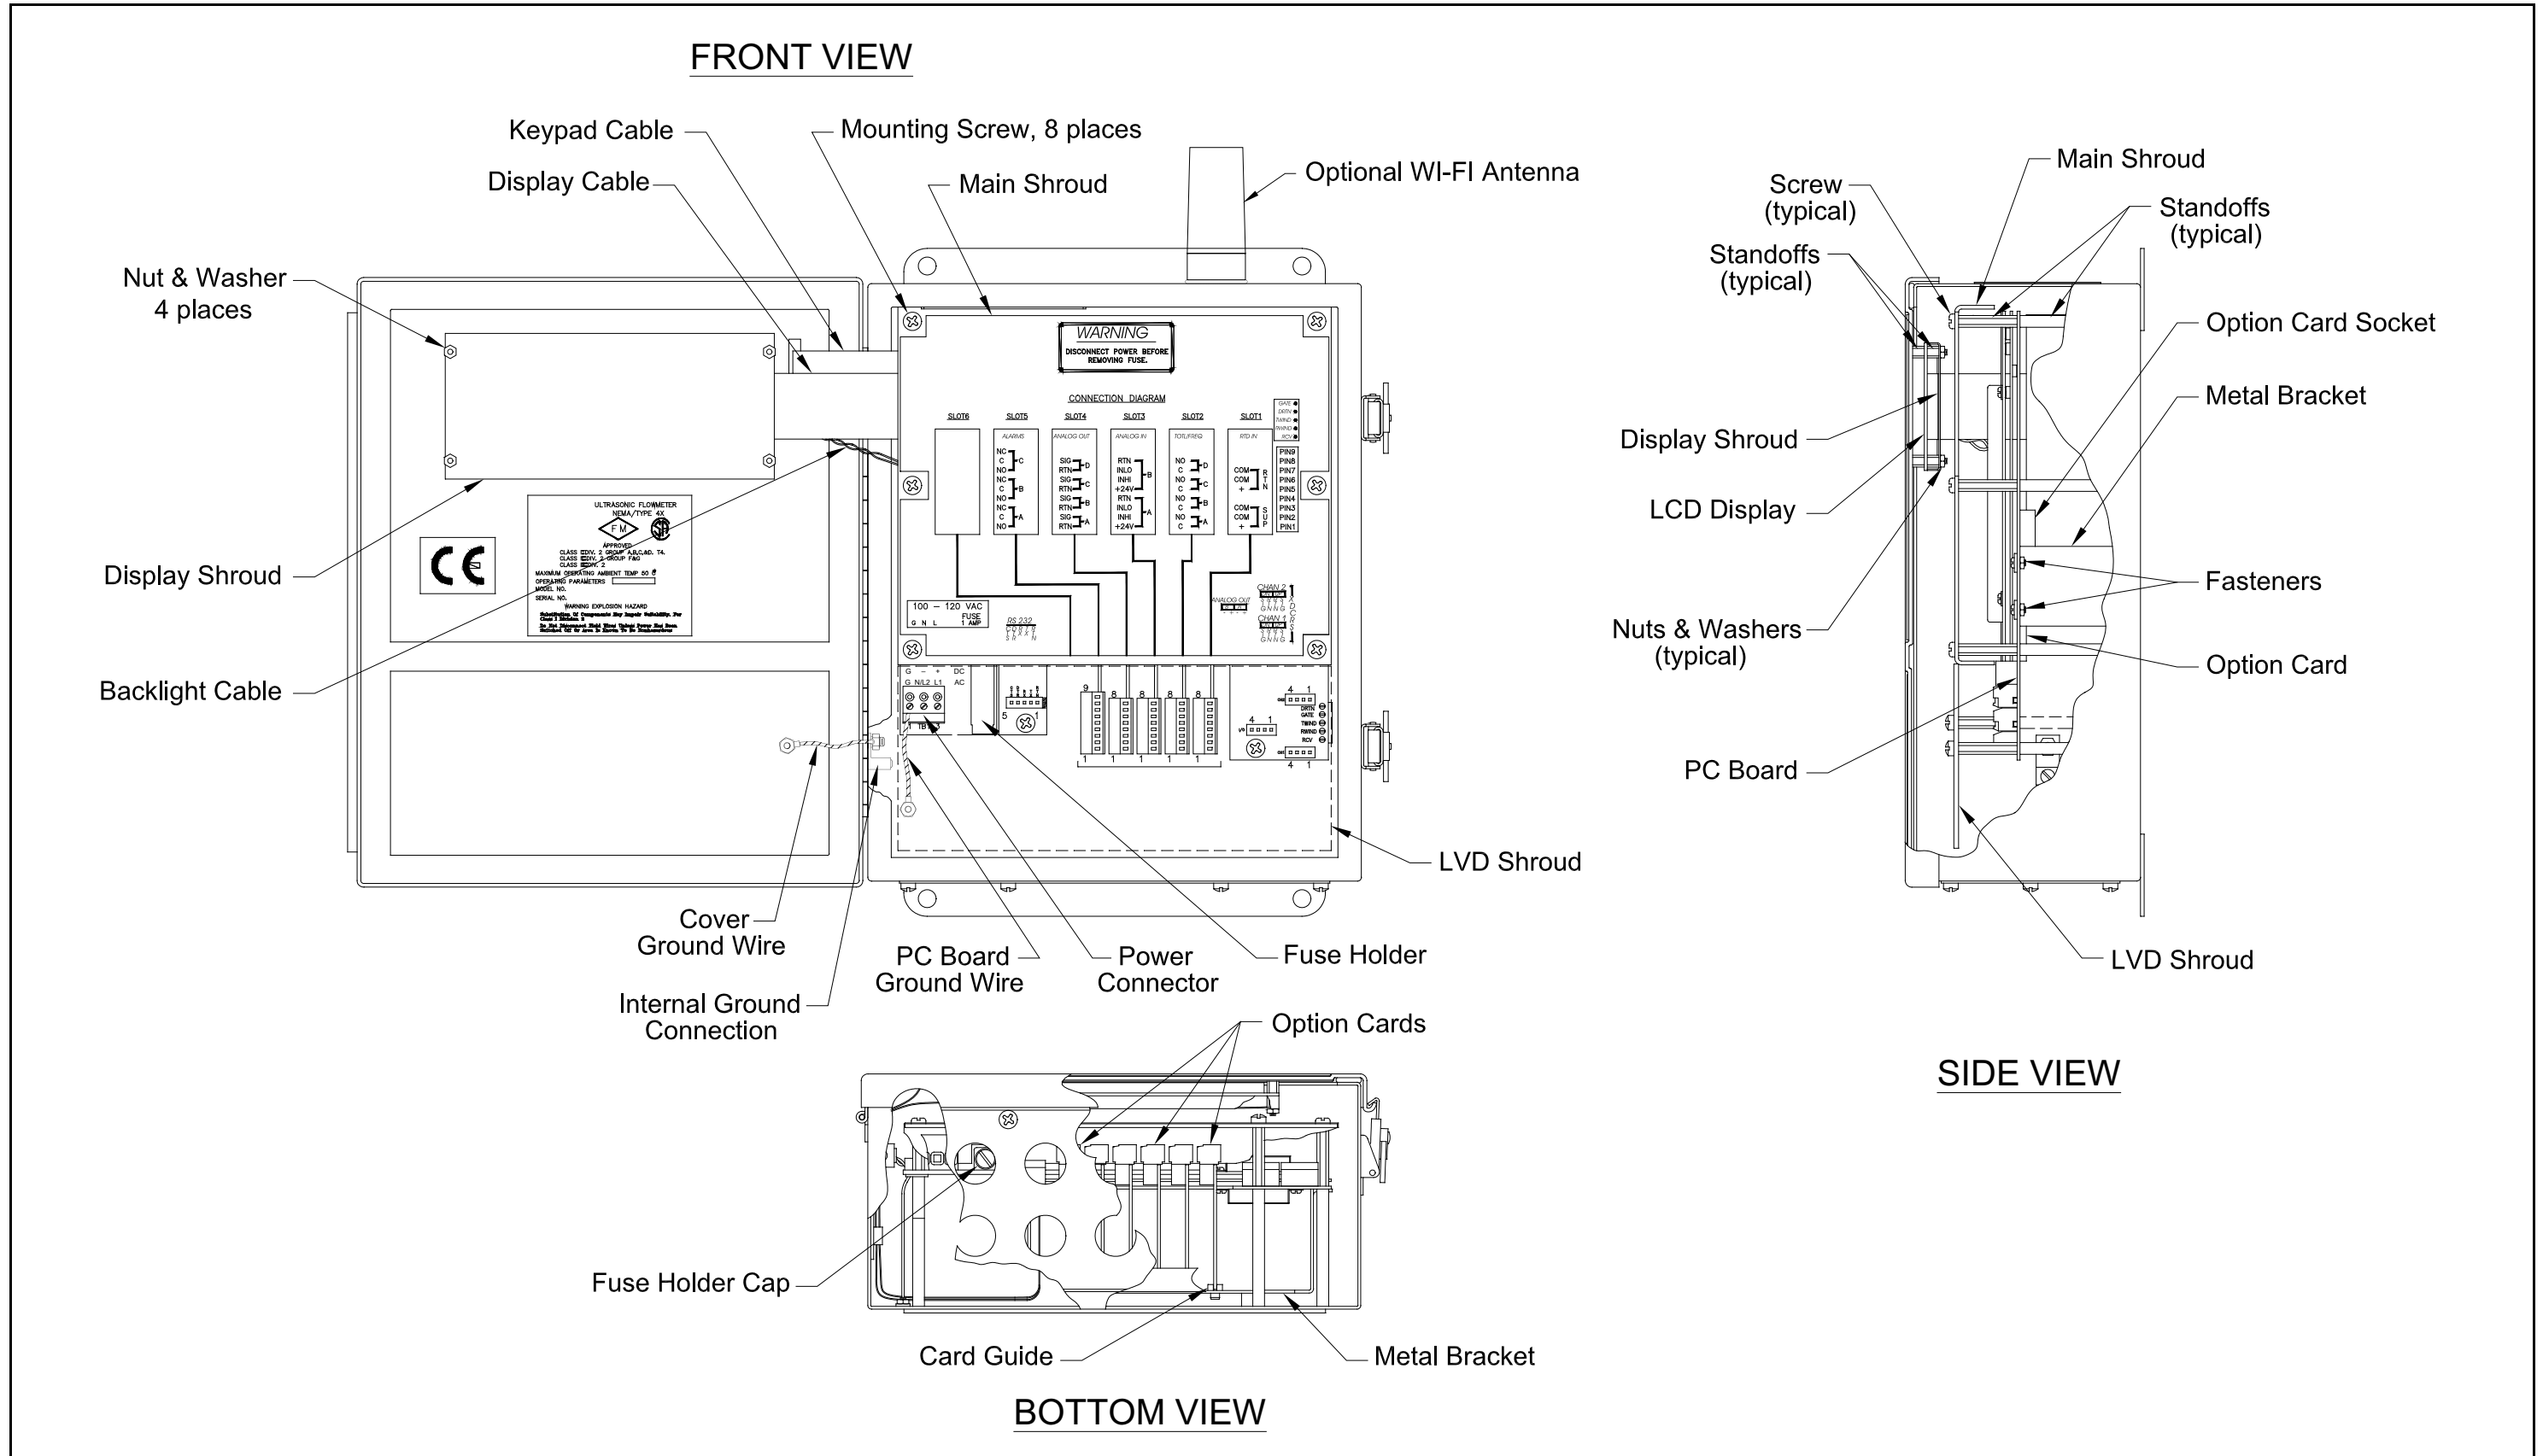
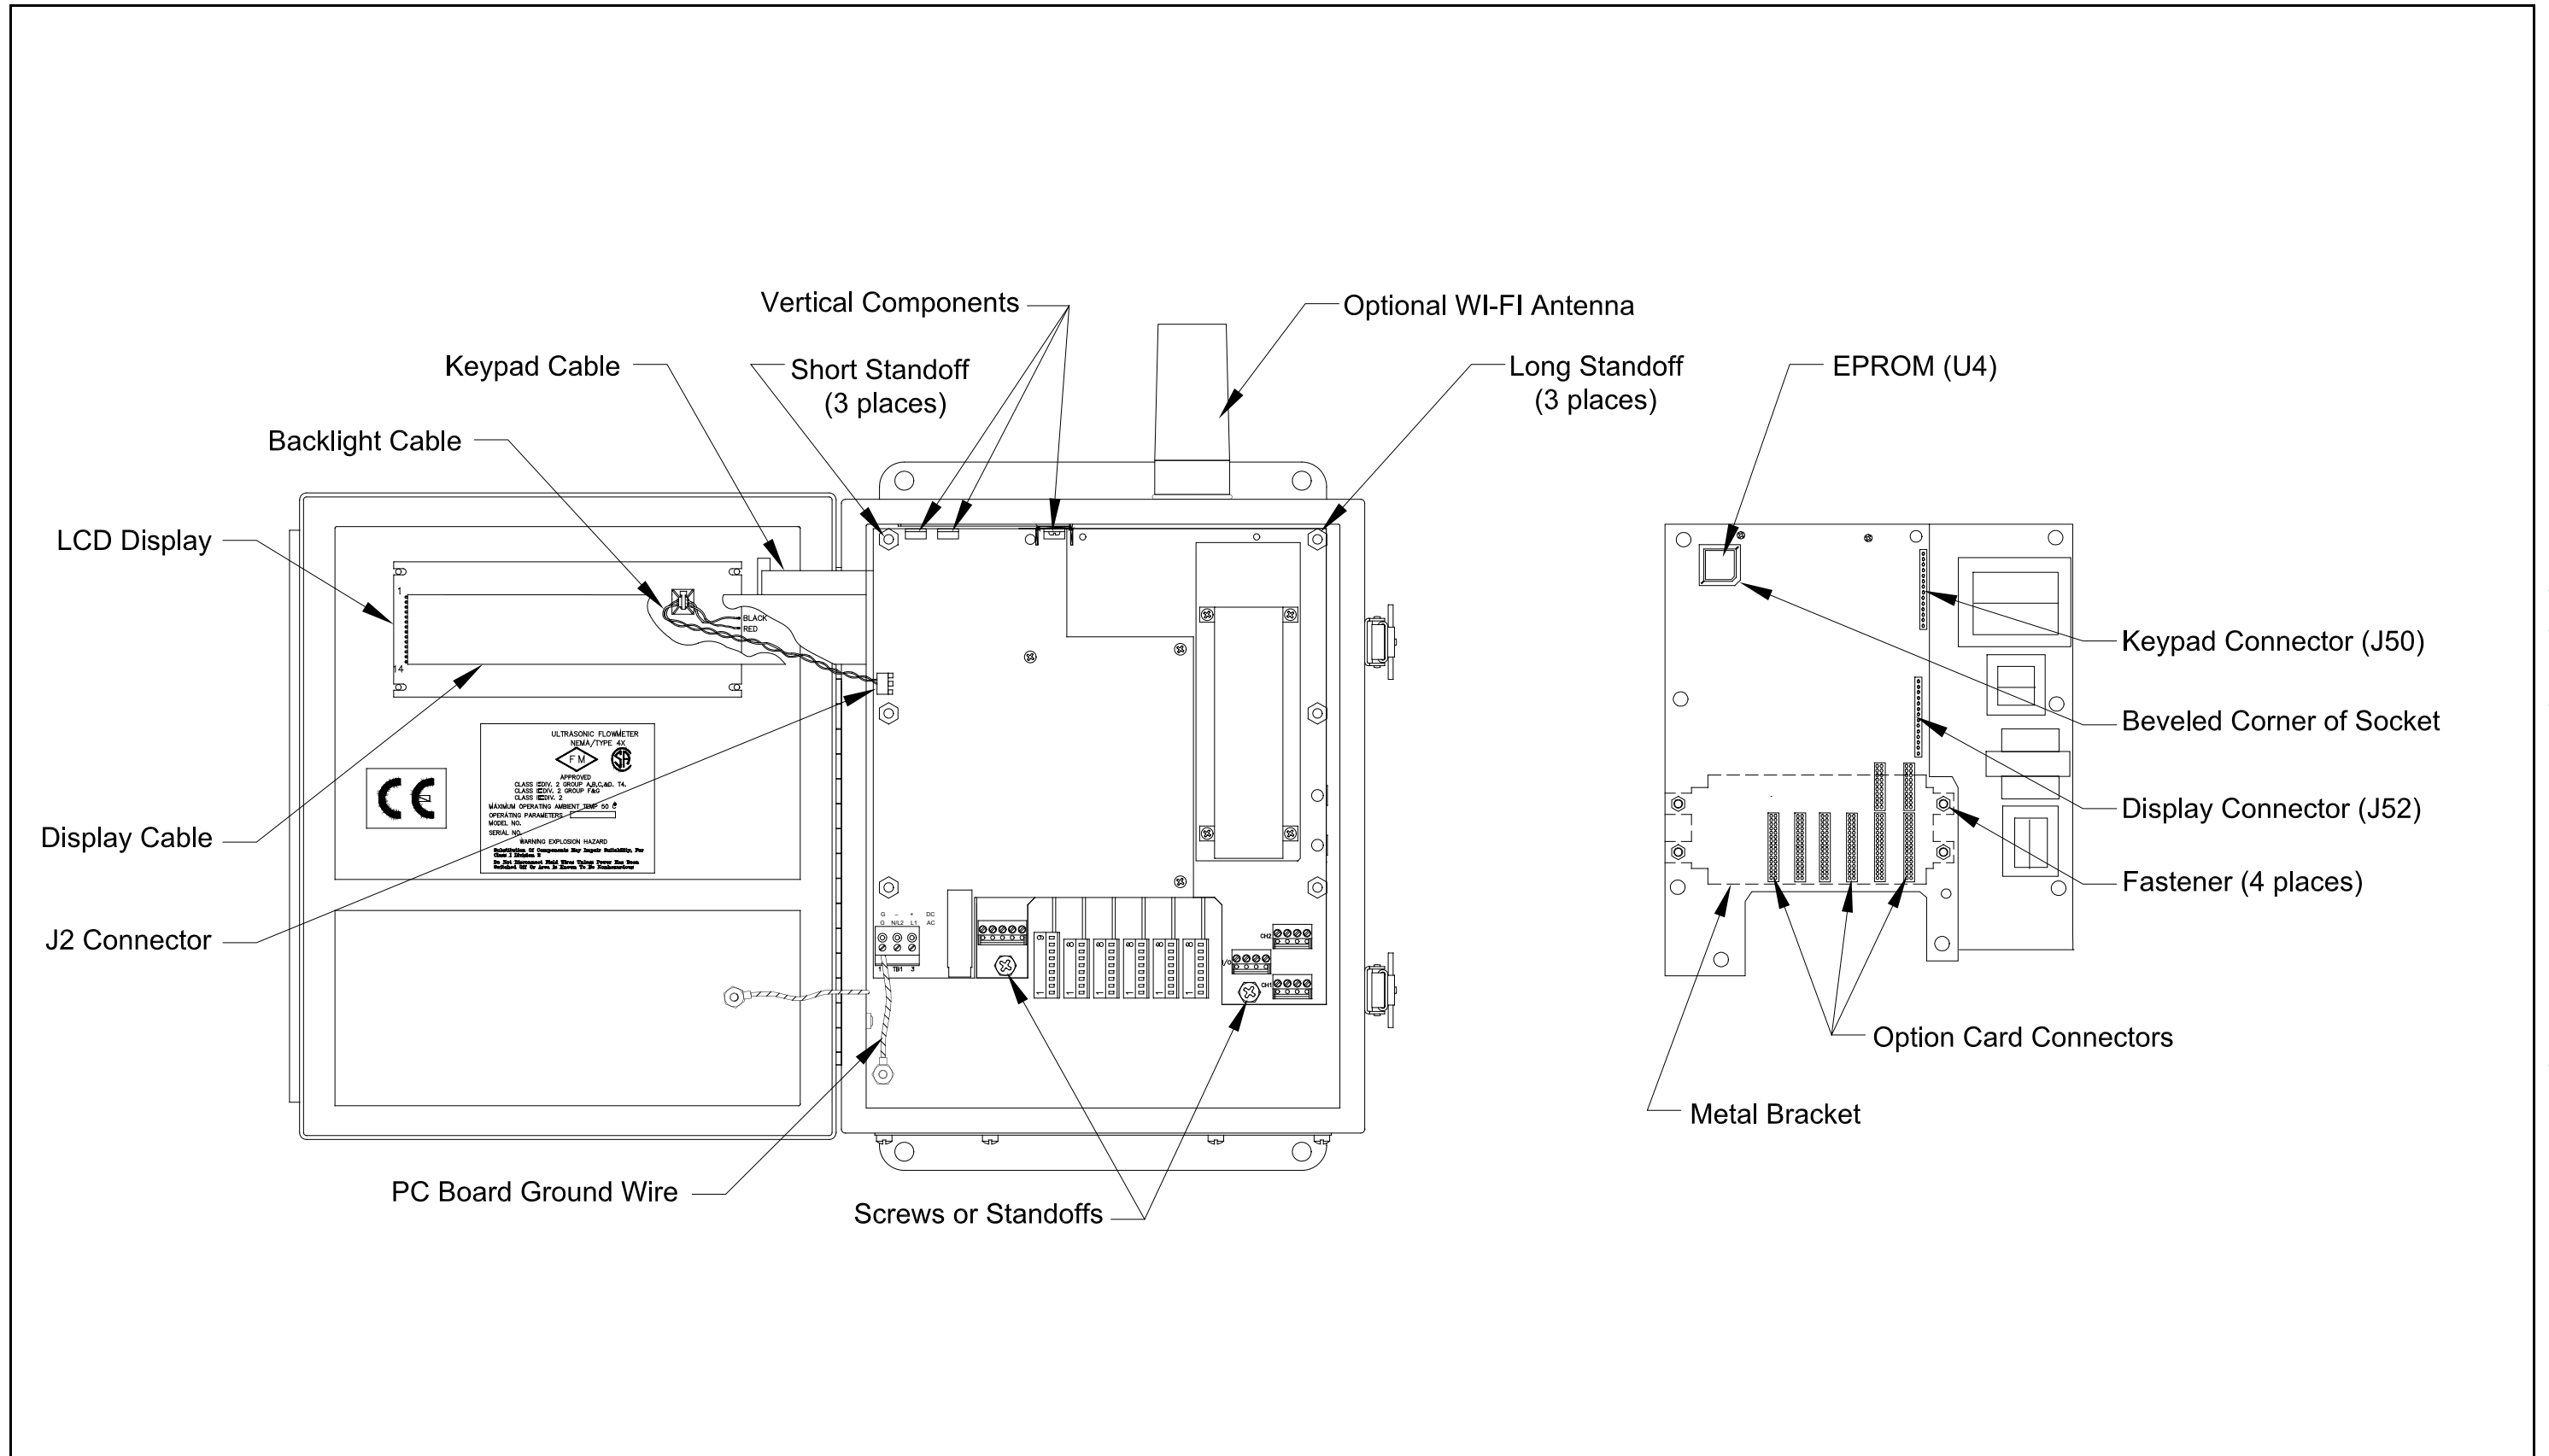

Figure 8: Standard Model DF868 - Electronics Console Assembly
Figure 9: Standard Model DF868 – Printed Circuit Board Assembly
2. Locate the black plastic fuse holder that is mounted on the printed circuit board between the power terminal block (TB1) and the RS232 terminal block. As shown in Figure 8 on page 35, the fuse holder extends below the main aluminum shroud, and the fuse holder cap is located on the bottom of the fuse holder.
All of the remaining maintenance procedures discussed in this chapter require removal of the printed circuit board. Refer to Figure 8 on page 35 and Figure 9 on page 36 while completing the following tasks:
CAUTION! During this procedure, be very careful not to damage the upright components along the top edge of the printed circuit board (see Figure 9 on page 36). Severe or repeated bending will break the component leads.
The Model DF868's *User Program* is stored on an erasable programmable read only memory (EPROM) chip. The EPROM, which is designated as component **U4**, is located in the top left corner of the rear of the printed circuit board. See Figure 9 on page 36 for a rear view of the printed circuit board. EPROM replacement may be required to replace a defective chip or to upgrade to a newer software version. To replace the EPROM, complete the following steps:
To install an option card, refer to Figure 9 on page 36 and complete the following steps:
- Place the metal bracket over the option cards, making sure that all option cards are aligned with the plastic card guides in the bracket. Secure the metal bracket to the printed circuit board with the snap rivets provided. See the installed assembly in Figure 8 on page 35.
The Model DF868's measurements are displayed on a two-pane LCD graphic display panel. The LCD display normally provides years of dependable service, but it is easily field-replaceable when necessary. To replace the LCD display, see Figure 8 on page 35 for the component locations, and complete the following steps:
- Place the new LCD display assembly over the mounting studs on the console cover and fasten it in place with the four standoffs. Make sure that the LCD display assembly is oriented as shown in Figure 9 on page 36.
Whether the printed circuit board was removed for replacement or for one of the other procedures discussed in this chapter, reinstallation of the printed circuit board is the final step in the process. Refer to Figure 8 on page 35 and complete the following steps:
CAUTION! During this procedure, be very careful not to damage the vertical components along the top edge of the printed circuit board (see Figure 9 on page 36). Severe or repeated bending of these components will break their leads.
1. Position the printed circuit board within the electronics console with the top edge tilted forward. Insert the display ribbon cable and keypad ribbon cable connectors into their sockets on the rear of the printed circuit board. See Figure 8 on page 35 and Figure 9 on page 36 to identify the cables and sockets. Note that the keypad cable connects to the upper socket and the display cable connects to the lower socket.